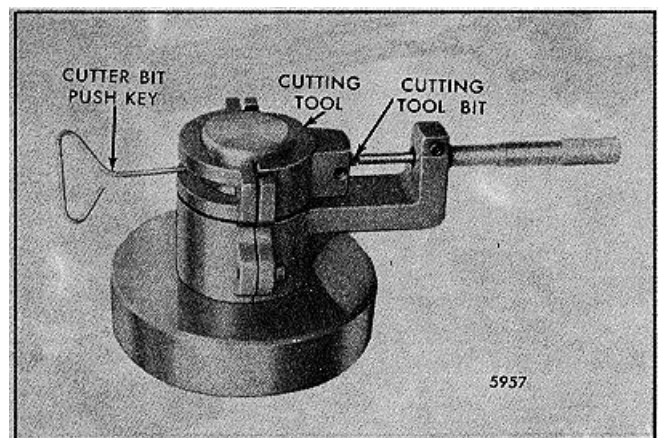

FIG. 6 Installing Cutting Tool Holder
8. Install the cutting tool holder on the micrometer test fixture. Use only the straight Allen wrench supplied in the kit. Set the cutting tool for the first cut of .040 (Fig. 6).